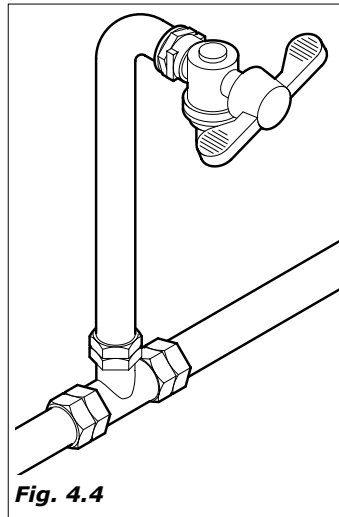

Fig. 4.4
- install, if not present, a tap in an accessible position to isolate the machine from the water mains should it be found to be necessary (Fig.4.4).